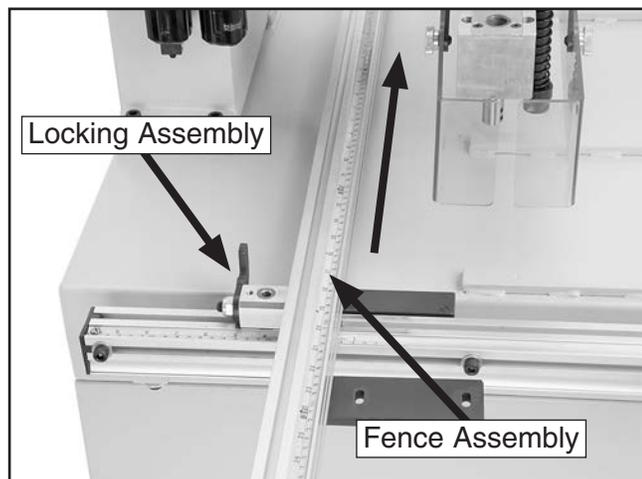

Figure 9. Longitudinal fence positioned for mounting to machine.
1. Slide the longitudinal fence assembly under the headstock as shown in **Figure 9**.
Note: Make sure the locking assembly of the longitudinal fence is facing the rear of the machine, as shown in **Figure 9**.